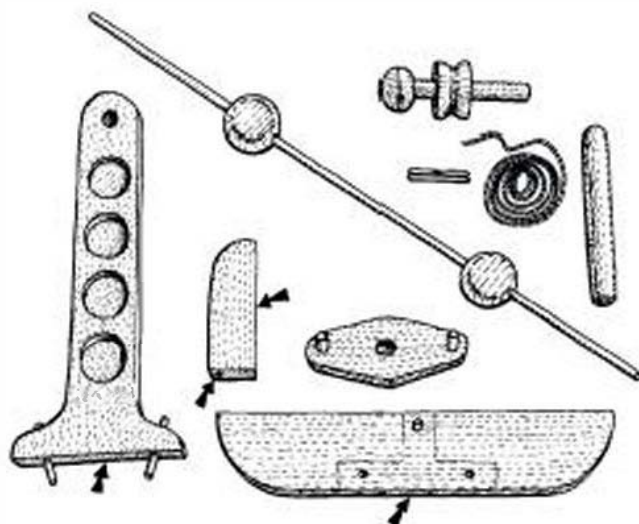

FIGURE 1-13
- 1** With all the component parts meticulously cut and worked (Fig 1-13), and with all unglued surfaces lightly oiled, set the stand on the base so it is flush with the front edge and aligned with the center line, and draw in a couple of discreet alignment marks.